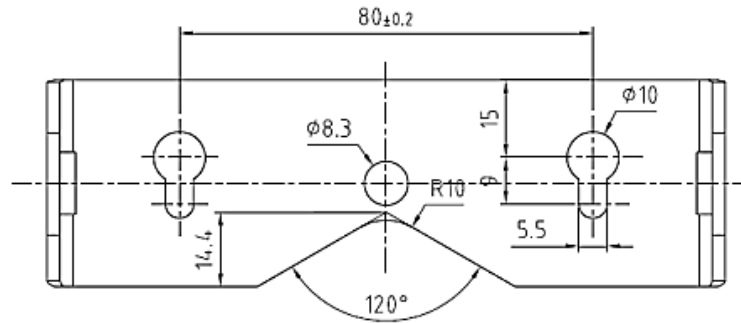

Figure A-7: Hole Pattern Template for Mounting Brackets
3. Mark the position of the bracket mounting holes on the surface to which the terminal will be mounted using the dimensions shown in Figure A-7, or by holding the terminal up to the surface and marking through the bracket holes.